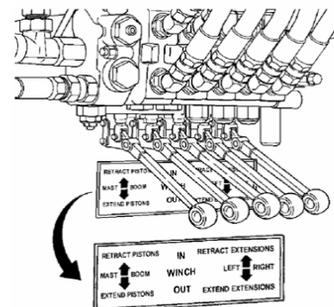

FIGURE 3- Levers
a. The operating instructions assume that the Tru-Hitch is set on the ground with the boom extended at a right angle to the mast section as shown in figure 1. Set the voltage selector to 12 volt, turn the power on at the electric control box (figure 2) and set the second switch to “electric”. Depress the motor control button and use the valve control lever (figure 3) to raise or lower the fifth wheel section by extending or retracting the mast to bring the
a. Using the valve control lever (figure 3), **BOOM EXTEND** until the fifth wheel section lifts sufficiently to allow the rear supports (7) to be lowered down over the prime movers after-frame. To lower the supports, rotate the rear support lever (8) clockwise until the supports lower and lock into position.